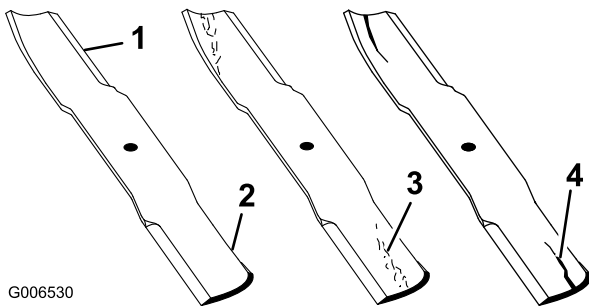

Figure 62
1. Inspect the cutting edges (Figure 62). If the edges are not sharp or have nicks, remove and sharpen the blades. Refer to *Sharpening the Blades*.
2. Inspect the blades, especially the curved area (Figure 62). If you notice any cracks, wear, or a slot forming in this area (item 3 in Figure 62), immediately install a new blade.